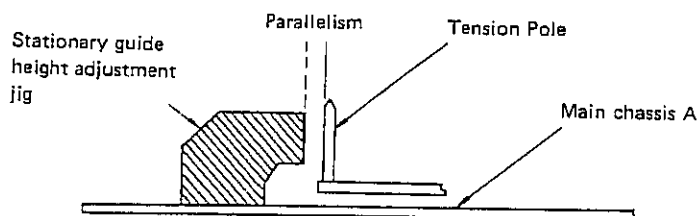

Figure 15
2. Set the stationary guide height adjustment jig as shown in Fig. 15.